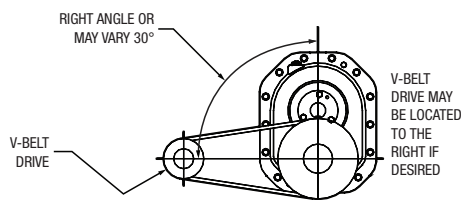

Figure 3 - Angle of V-Drive
5. If a Dodge Torque-Arm II motor mount is not being used, install motor and V-belt drive so belt will approximately be at right angles to the center line between driven and input shaft (Figure 3). This will permit tightening the V-belt with the torque arm.